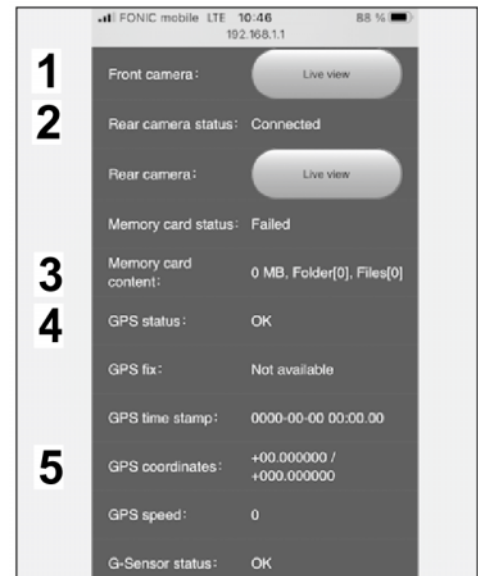

Figure 26
6.2 Display of live images from front camera, connection status, memory card status, GPS and radar status and more (⇒ *Figure 26*).